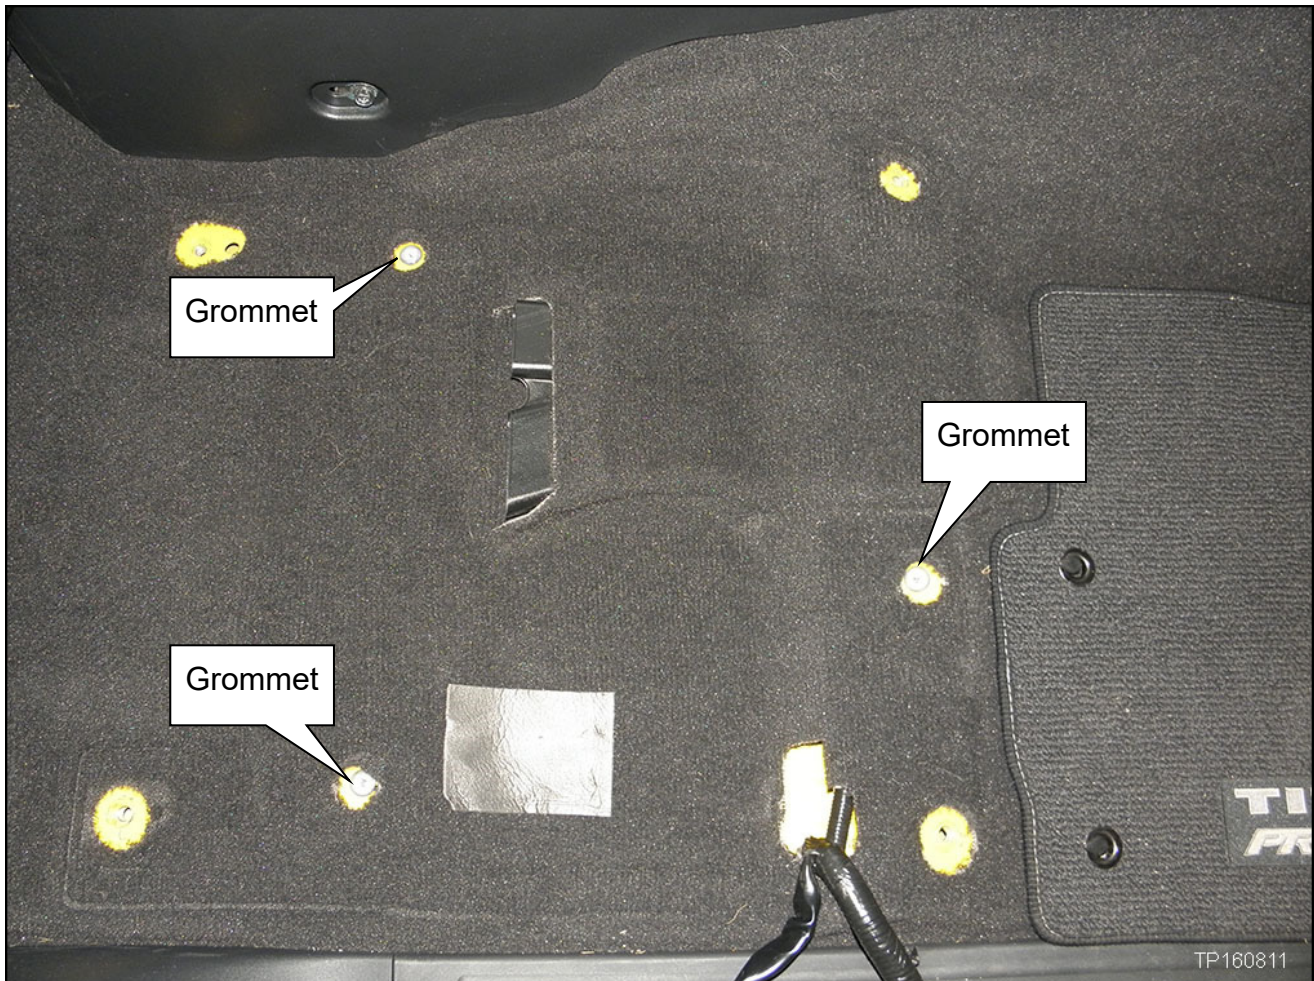

Figure 1
2. Remove the grommets shown in Figure 1.